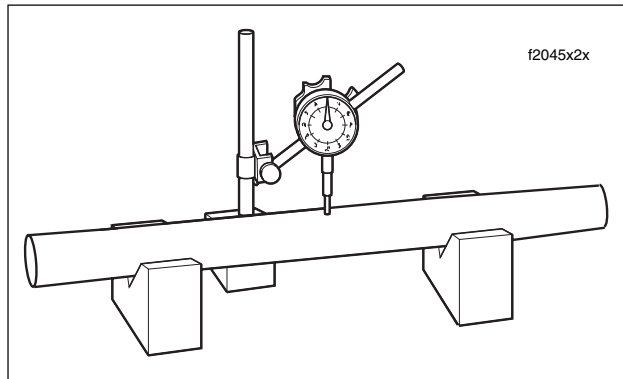

Figure 2-77. Measure Fork Tube Runout
5. Check the fork tube and slider for scoring, scratches and excessive or abnormal wear. Replace parts as necessary. Set the fork tube on V-blocks and measure the runout using a dial indicator gauge. Replace fork if runout exceeds 0.008 inch (0.2 mm). See Figure 2-77.